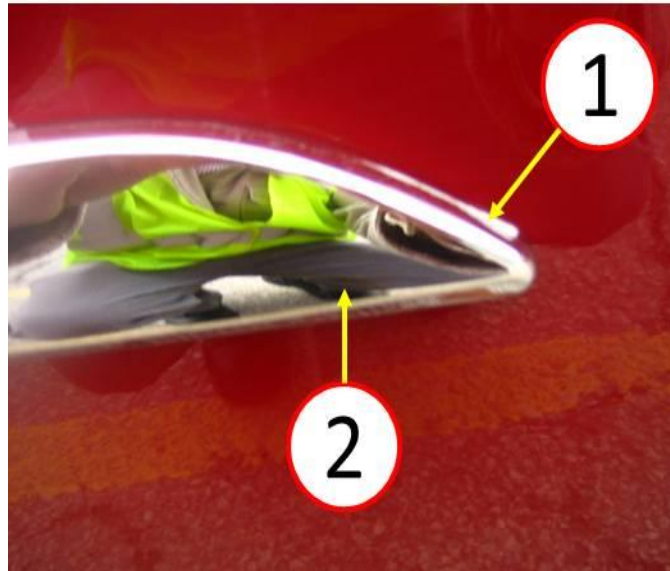

Fig. 1 Inspection
1. Inspect the right front door molding. Is the mounting tape visible as shown in (Fig. 1)?